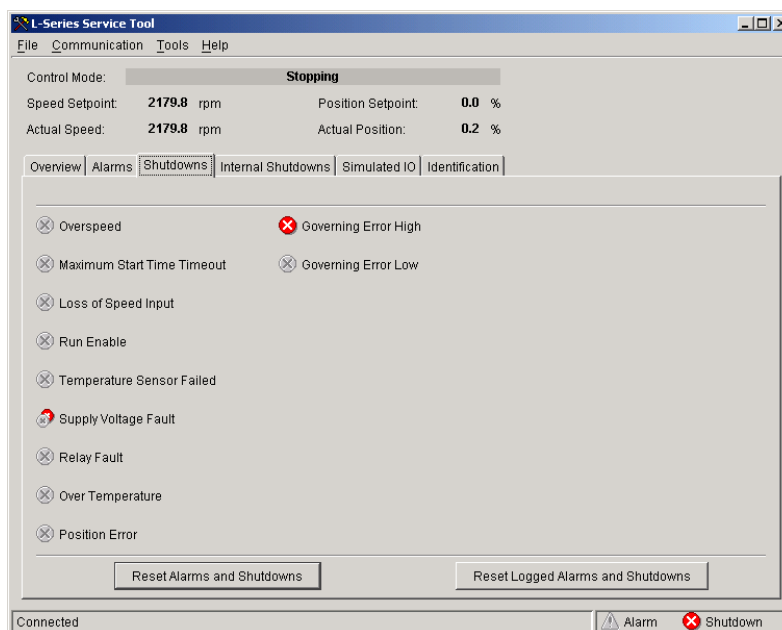

Figure 5-5. Service Tool—Shutdowns Tab
- Shutdowns (see Figure 5-5)
To monitor the shutdown conditions, go to the Shutdowns and the Internal Shutdowns pages (Figures 5-5 and 5-6) on the main window. The values displayed on the Shutdowns screen dynamically change with the fault configuration. Refer to Chapter 4 for a complete listing and details of all the faults.